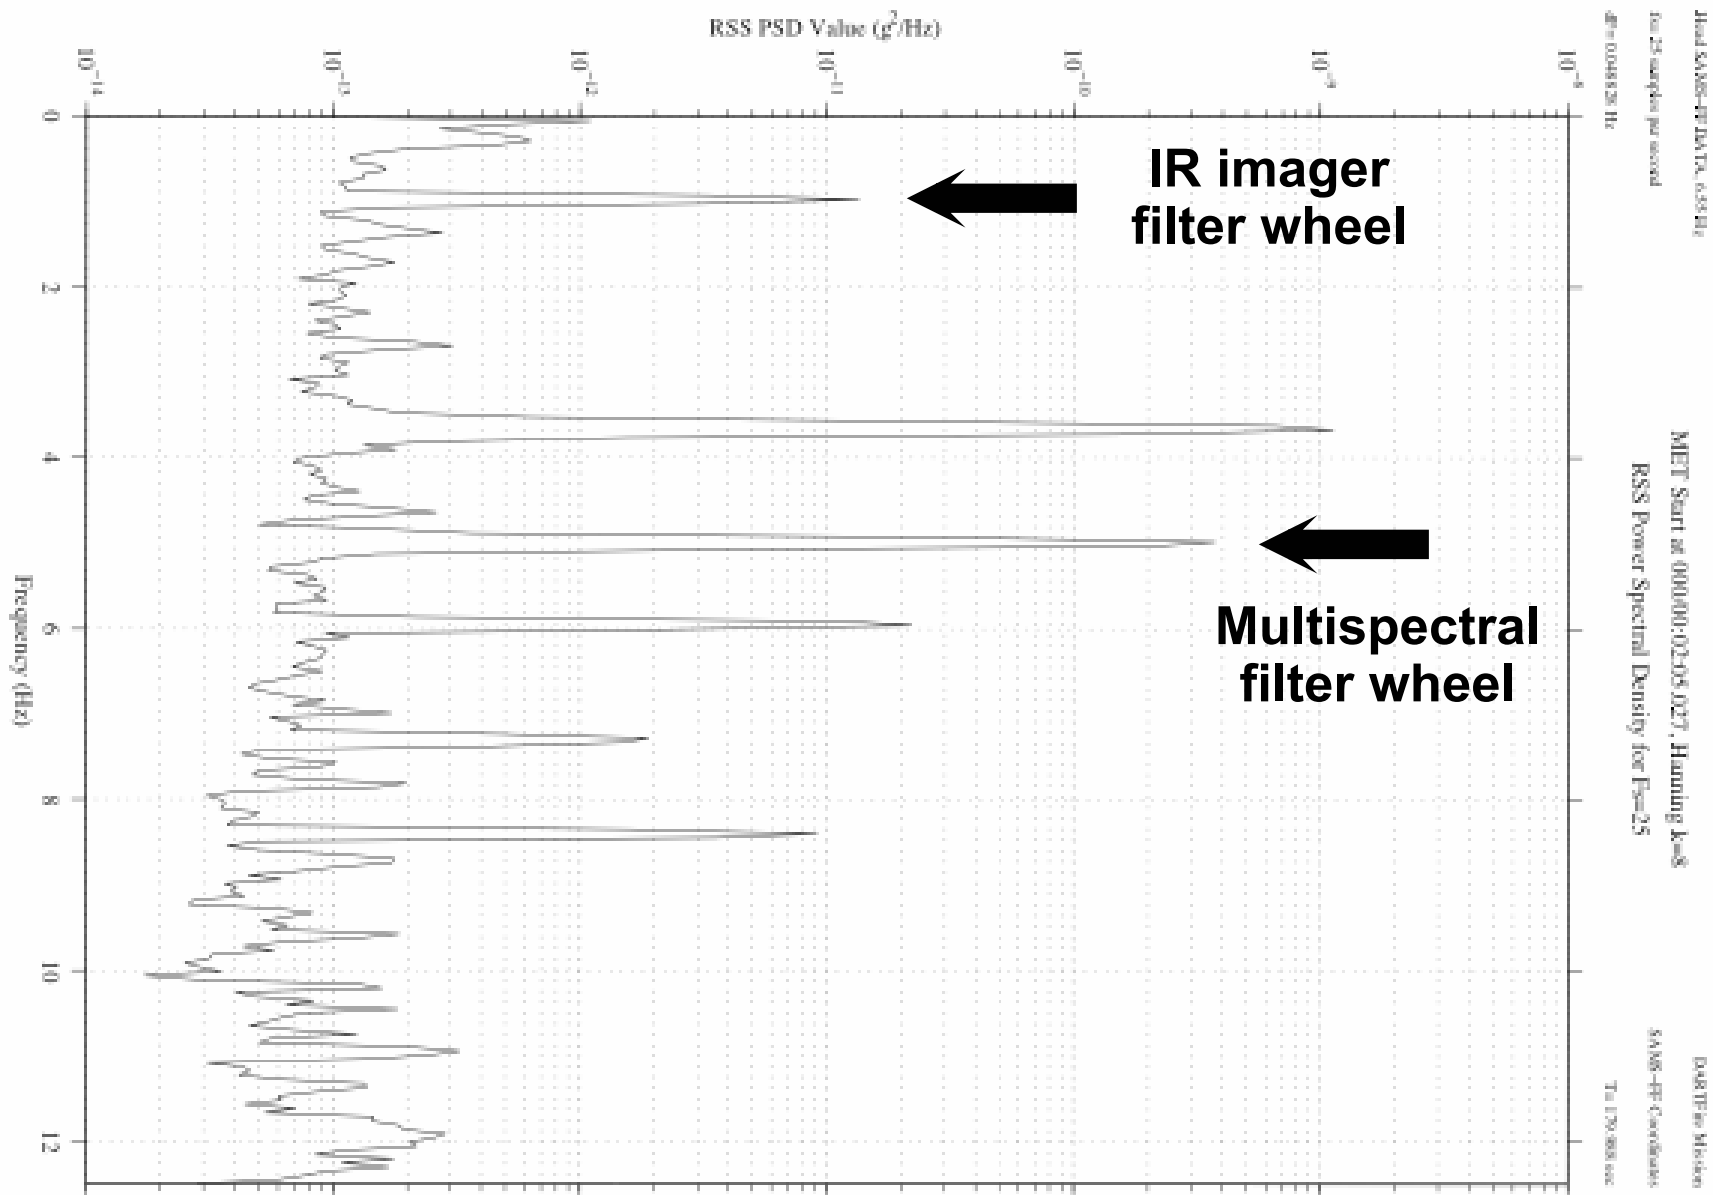

Figure 9 - Power spectral density during DARTFire experiment operations
- RSS power spectral density is shown in Figure 9